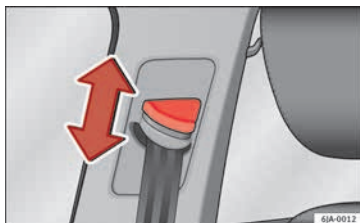

Fig. 80 Location of the belt height adjuster.
- Press the upper part of the shoulder belt guide and hold it in this position »» Fig. 80.